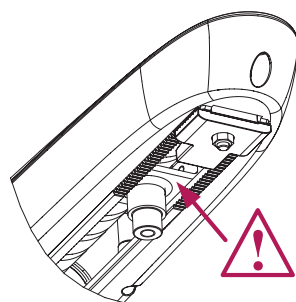

Figure 14. After the drive is mounted, the connector must not contact the enclosure
- with the drive released, make sure that the leaf is moving smoothly when opened or closed, and the drive does not hit the post or the gate leaf. Check the opening angle of the leaf. There should be no friction between the slide nut of the drive and the enclosure (*fig. 14*).